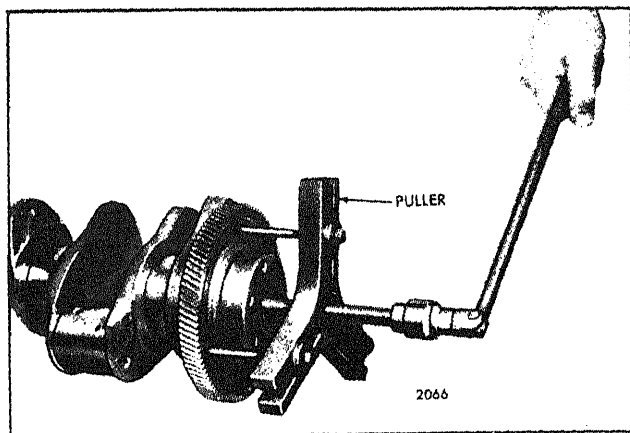

Fig. 1 - Removing Crankshaft Timing Gear
3. Attach bar type puller J 4871 to the crankshaft gear with three long bolts or hooks, flat washers and nuts through the holes in the gear as shown in Fig. 1.